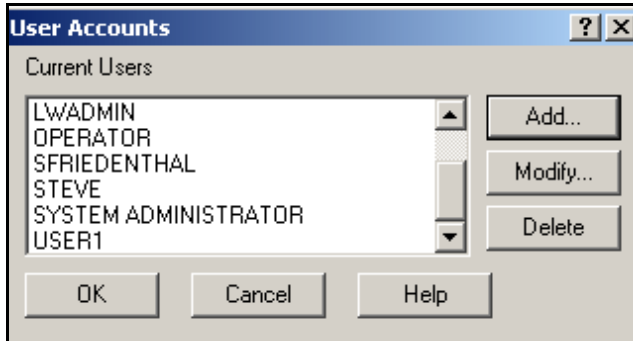

Figure 22: User Accounts Window
- From the Security Configuration window, go to the **Edit** menu, and click on **User Accounts**. The User Accounts window (Figure 22 below) opens.
2. From the Security Configuration window, go to the **Edit** menu, and click on **User Accounts** (Figure 22 on page 37).